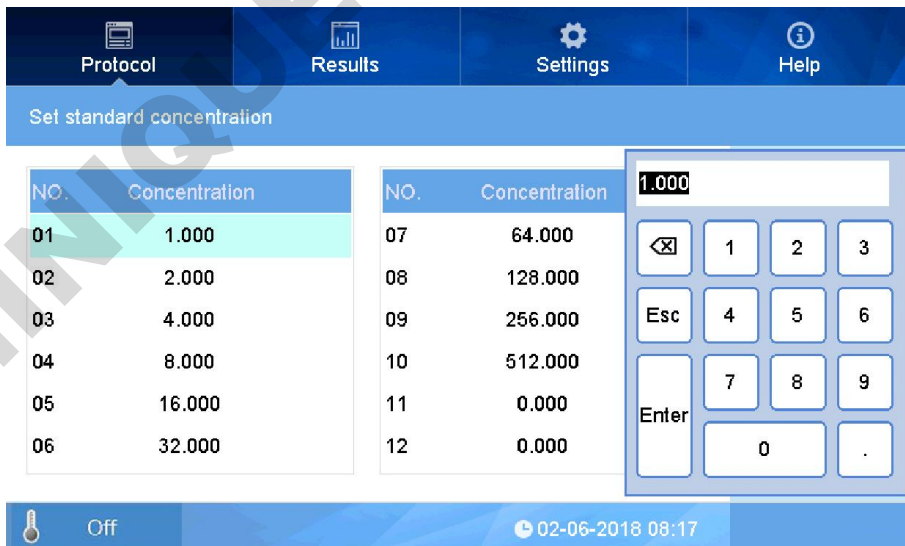

fig 20
- When setting concentration, only click the correspondent No. to input the concentration value(Fig 20).